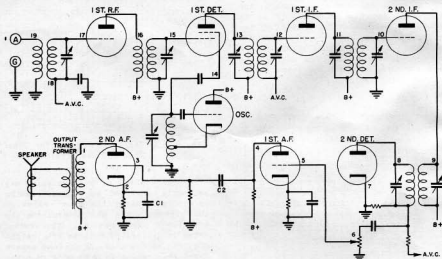
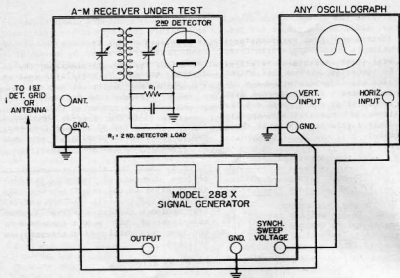
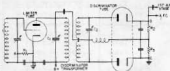

Figure 4.1 - Basic Circuit,
Figure 4.2 - Interconnections for Alignment
Figure 4.3 - Discriminator Circuit
In general, all of the models may be used for the same purpose. Should the Model 277X be purchased, a voltmeter may be used, in many cases, to replace the decibel meter. As the applications indicated here are general in nature, the specifications of the manufacturer should be consulted in making all tests. A basic circuit diagram of the seven tube amplitude modulated superheterodyne receiver which is referred to throughout the following discussions is shown in Figure 4.1. Frequency modulated receiver circuits have, in addition to the stages shown, limiter and discriminator (2nd detector) stages. (Frequency modulation is discussed in detail in Section II, Theory, Paragraph 2.6).
The following chart summarizes the alignment effected, the signals required, the indicating medium required, the points of connection for both, and the alignment adjustment necessary for the alignment of the stages of both amplitude and frequency modulated receivers. In conjunction with this chart, reference is made to the text for greater detail on the alignment to be made and to Figure 4.2 which shows the interconnections of the oscillograph, signal generator and the receiver. All points given are with reference to the basic circuit of the superheterodyne receiver, illustrated in Figure 4.1, and the discriminator circuit illustrated in Figure 4.3. The oscillograms which will be obtained when making alignment by means of the oscilloscope are shown in Figure 4.4 - 4.10.
1. In frequency modulated receivers there is at least one, and sometimes two, limiter stages ahead of the discriminator (2nd detector) stage. See Figure 4.3. The general procedure for the alignment of frequency modulated receivers is similar to that for the alignment of amplitude modulated receivers except that, in the alignment of various stages, it is necessary to have either a sensitive microammeter, preferably zero-centered, a vacuum tube voltmeter, such as the Hickok Models 125, 203 or 110B, or cathode ray equipment such as the Hickok Model 305.
2. Figure 4.3 illustrates a typical limiter and discriminator circuit. If no scope is available it will be necessary in the alignment of all i-f and r-f stages and the local oscillator preceding the limiter stage, to either disconnect the limiter load resistance, R1, from ground and insert a microammeter, or to connect a vacuum tube voltmeter across R1, and use either meter as an indicator of alignment of the preceding stages. The alignment procedure will be identical to that for amplitude modulated receivers.
-- All connections are made in reference to Figure 4.1. Connect the decibel meter either at the primary of the output transformer (point 1), or across the voice coil of the speaker, and feed a signal in at the grid of the audio frequency output stage (point 3). Note the reading of the indicating meter, and, maintaining the signal level constant, transfer the signal to the grid of the 1st A.F. (point 5). The gain of the stage can be calculated from the increase in the meter reading. If the tube is a triode, the gain may not exceed 10. However, if it is a pentode, the gain may be as high as 50 or 100.
a. General - The Model 288X, when properly used, is a very valuable instrument for locating trouble in electronic devices. In the case of radio receivers it is advisable in locating faults, to start at the speaker or output stage and work back towards the antenna. All following information on trouble-shooting is with reference to the basic circuit of the superheterodyne receiver, illustrated in Figure 4.1.